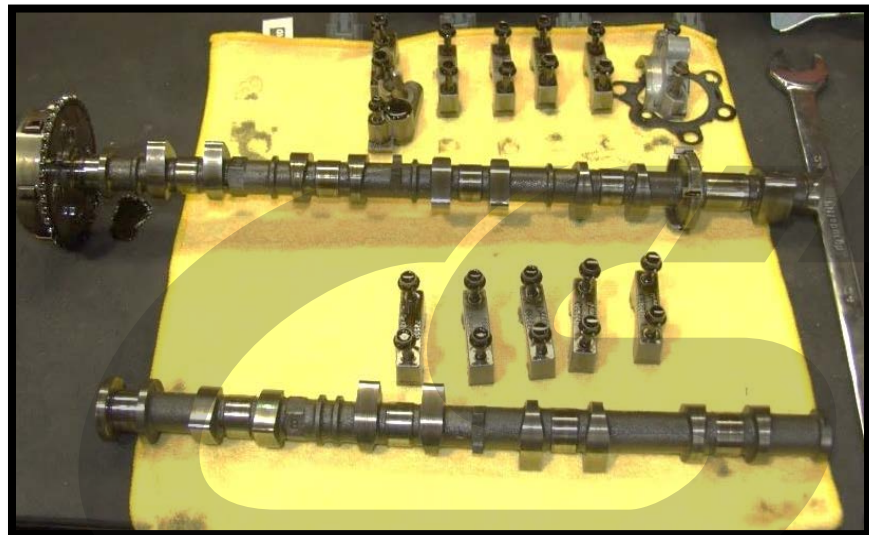

Figure 3w
- w) **Lay out all the caps and camshafts on a clean surface in the exact order and orientation they were removed (Figure 3w).**